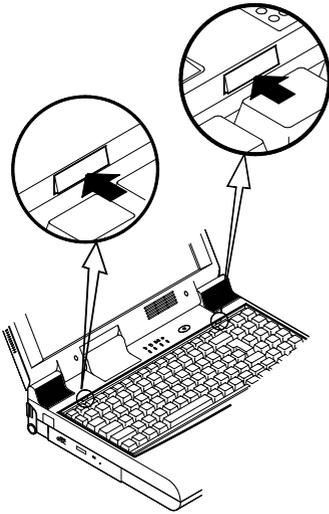

Figure 2-3
2. Press the two keyboard latches to elevate the keyboard from its normal position (Figure 2-3).